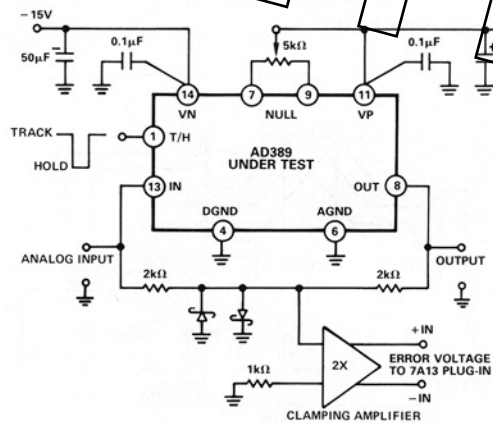
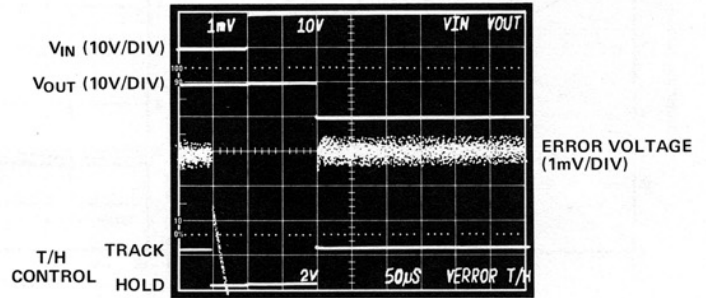

Figure 8. Pedestal and Acquisition Time Test Circuit
Figure 11a. Acquisition Time after  $100\mu s$  in the Hold Mode. The AD389 Shows no "Thermal Tail".
*Thermal Tail* is the slow drift of the output stage as it settles to the final value with a thermally induced offset due to self-heating; see Figures 11a and 11b.
Minimal thermal tail effects are another requirement of high resolution applications. The self-heating errors induced by the changing current levels in the output stages of T/H amps may cause more than 1LSB of error due to thermal tail effects. The performance of a typical AD389 in contrast to a typical 12-bit T/H circuit is shown in Figures 11a. and 11b. The test circuit is shown in Figure 8.